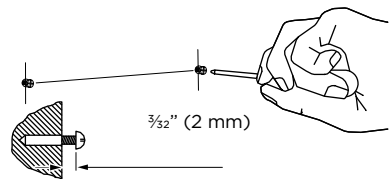
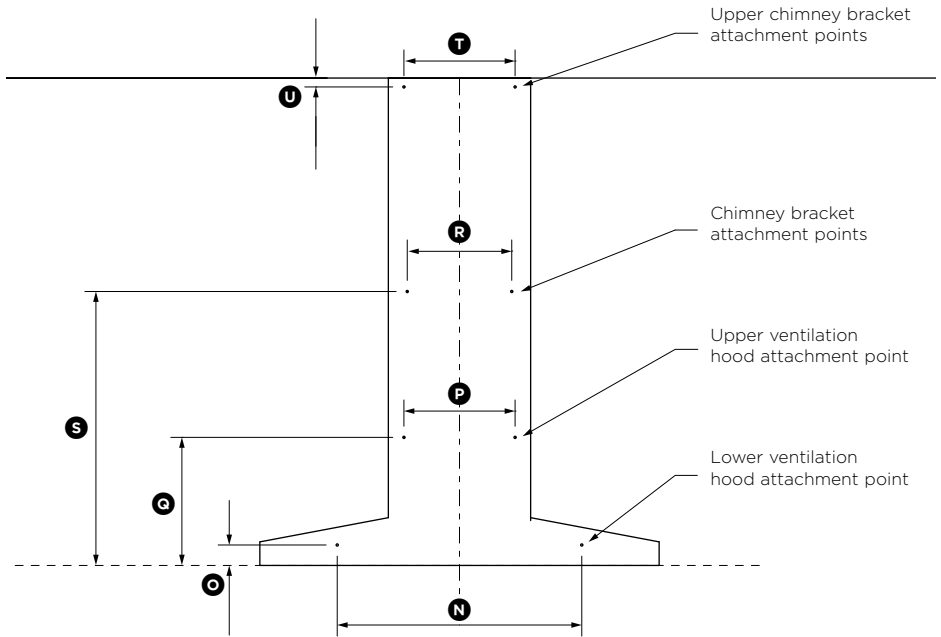

Fig.1
Fig.2
- Ensure the voltage (V) and the frequency (Hz) indicated on the serial plate match the voltage and frequency of the installation site.
② Attach chimney brackets and ventilation hood mounting screws to the wall
- Attach the chimney bracket and upper chimney bracket (if using the upper chimney) in the locations shown in Fig.2 (refer to page 13) and Fig.3 (refer to page 14). Use the $1\frac{3}{16}$ " (30 mm) screws (and expansion plugs if attaching to masonry).
- Attach the upper ventilation hood mounting screws in the locations shown in Fig.2 (refer to page 13) and Fig.3 (refer to page 14). Using the $1\frac{3}{16}$ " (30 mm) screws (and expansion plugs if attaching to masonry). Ensure that there is a $\frac{3}{32}$ " (2 mm) gap between the screw head and the wall (Fig.1).